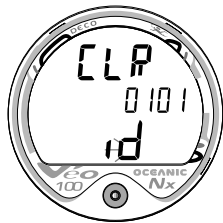

Fig. 62 - RESET (Clear)
- Depress/hold the button while the second Log screen of the most recent dive is being displayed to access the Reset screen. The graphics **CLR** and **id** will appear with the Key Code 01 01, the first 2 digits flashing (Fig. 62). Release the button.